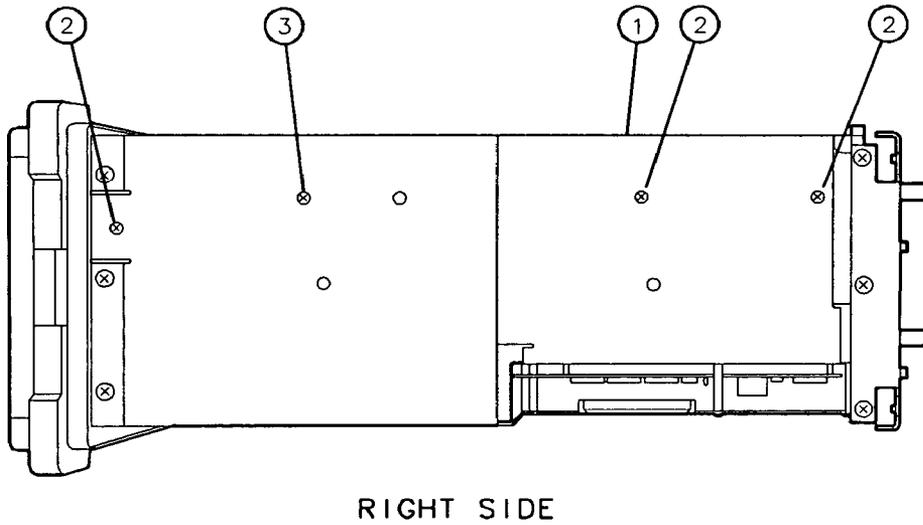

Figure 3-20. Removing the A7 Assembly
18. Disconnect W13 (1) located at the top of the A7 assembly. See Figure 3-20.
19. Remove the three TORX screws (2) and one pozidrive screw (3) securing the A7 assembly to the analyzer's right side panel. Use a TORX #8 driver bit.